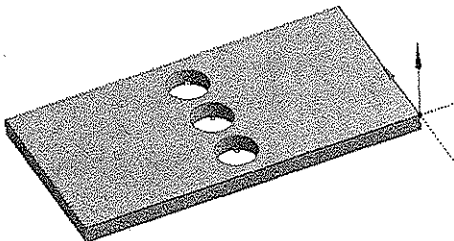

Figure 7-23 Creating three holes using the Extrude tool
- 11. Extrude the sketch in such a manner that material is removed from the base plate, as shown in Figure 7-23.